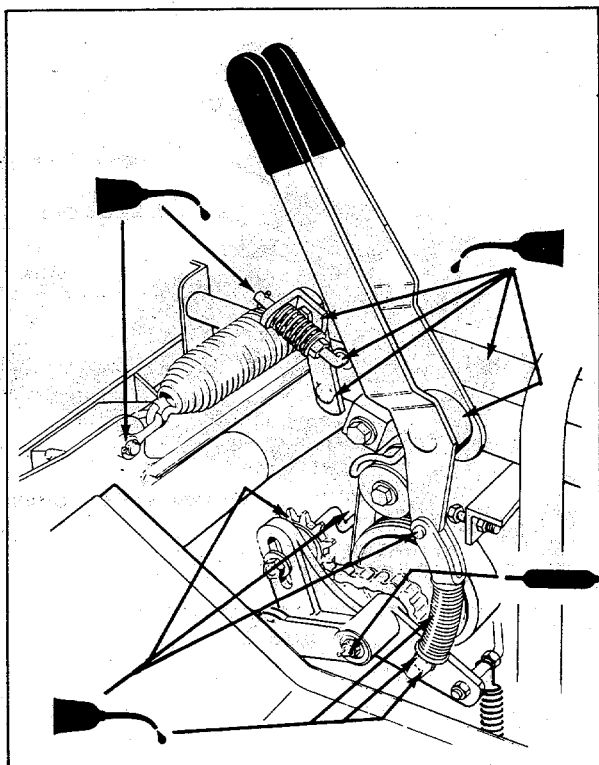

Figure 23
4. Every eight operating hours, remove shroud and lubricate areas that should move freely to insure smooth operation (Fig. 23). A few drops of good lubricating oil at these points every eight operating hours is essential. Avoid getting oil on drive belts.